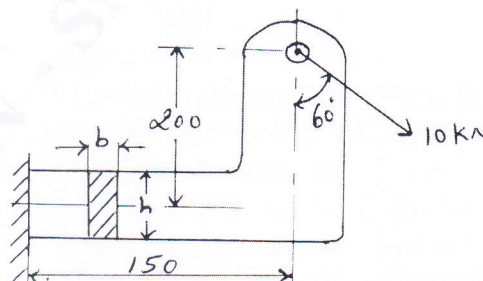

Fig.Q2(b)
- b. A mild steel bracket shown in Fig.Q2(b) is subjected to a pull of 10kN. The bracket has a rectangular cross-section whose depth is twice the width. If the allowable stress for the material is 80N/mm^2 , determine the c/s(cross section) of the bracket.